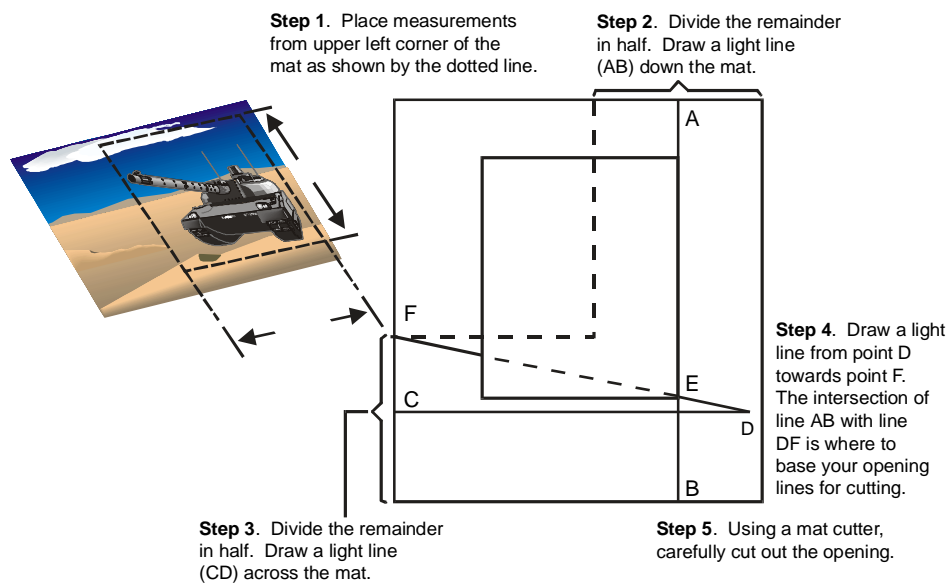

Figure 3-25. Optically centered mat.
- (1) Place artwork measurements on the mat, starting from upper left corner of the mat as shown by the dotted line in Figure 3-25.